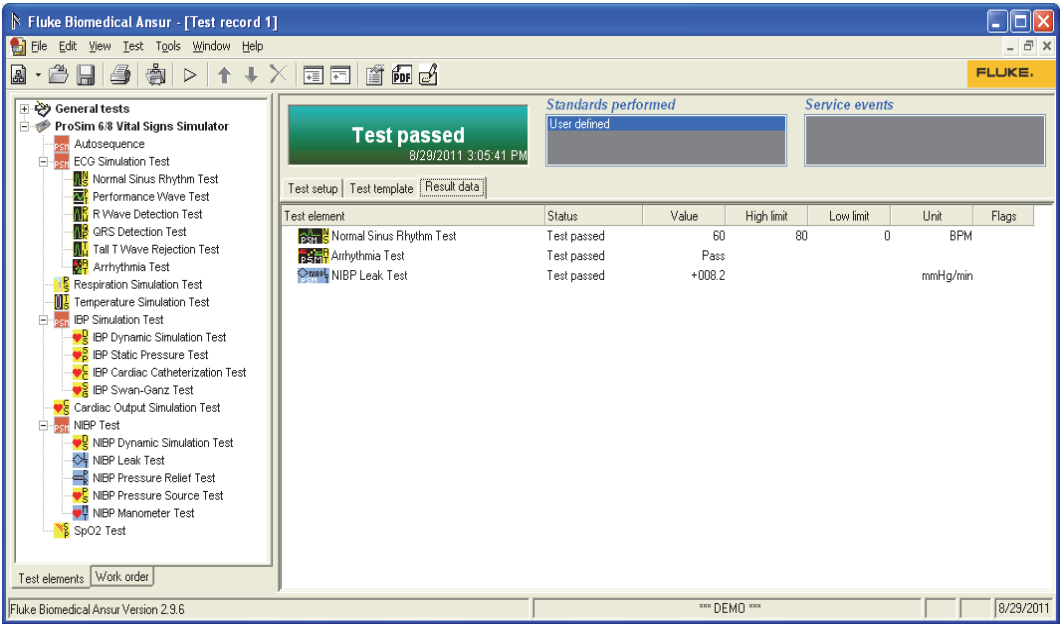

Figure 3-7. Test Results File
14. Click  to show the test results file shown in Figure 3-7.